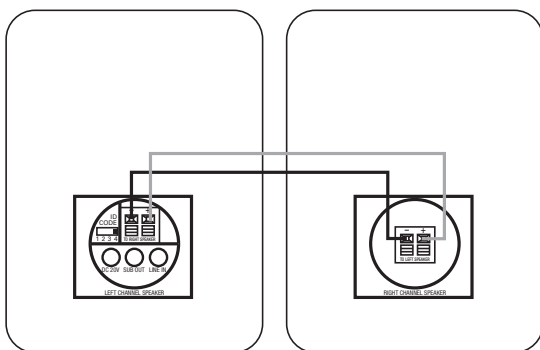

Figure 3.
See Figure 3. Please note that the speaker wire supplied features a polarity stripe to help distinguish its two conductors. Use this polarity stripe to ensure that you are connecting the positive (+) terminal on one speaker to the positive (+) terminal on the other, and the negative (–) to the negative (–). It does not matter whether you use the striped conductor for connecting the positive (+) terminals or the negative (–) terminals.
Step 3. Connect the speaker wire (included) to the push terminals on the active speaker ⑥ and the push terminals on the rear of the passive speaker ⑩, as shown in Figure 3. Please note that the speaker wire supplied features a polarity stripe to help distinguish its two conductors. Use this polarity stripe to ensure that you are connecting the positive (+) terminal on one speaker to the positive (+) terminal on the other, and the negative (–) to the negative (–). It does not matter whether you use the striped conductor for connecting the positive (+) terminals or the negative (–) terminals.
Step 4. Plug the transmitter module ⑫ and active speaker ⑦ into the wall outlet. Make sure the transmitter’s antenna ⑪ is extended upward.
Step 5. Make sure the ID code setting on the transmitter ⑬ is set to the same setting as that on the active speaker ⑤. See Page 8 of this manual for more information on ID codes. If necessary, configure your receiver to activate the preamp level outputs for the main/front channels (consult your source’s owner’s manual for specific instructions).
Step 4. Plug the transmitter module ⑫ and active speaker ⑦ into the wall outlet, using the correct power supply and power cord. Make sure the transmitter’s antenna ⑪ is extended upward.